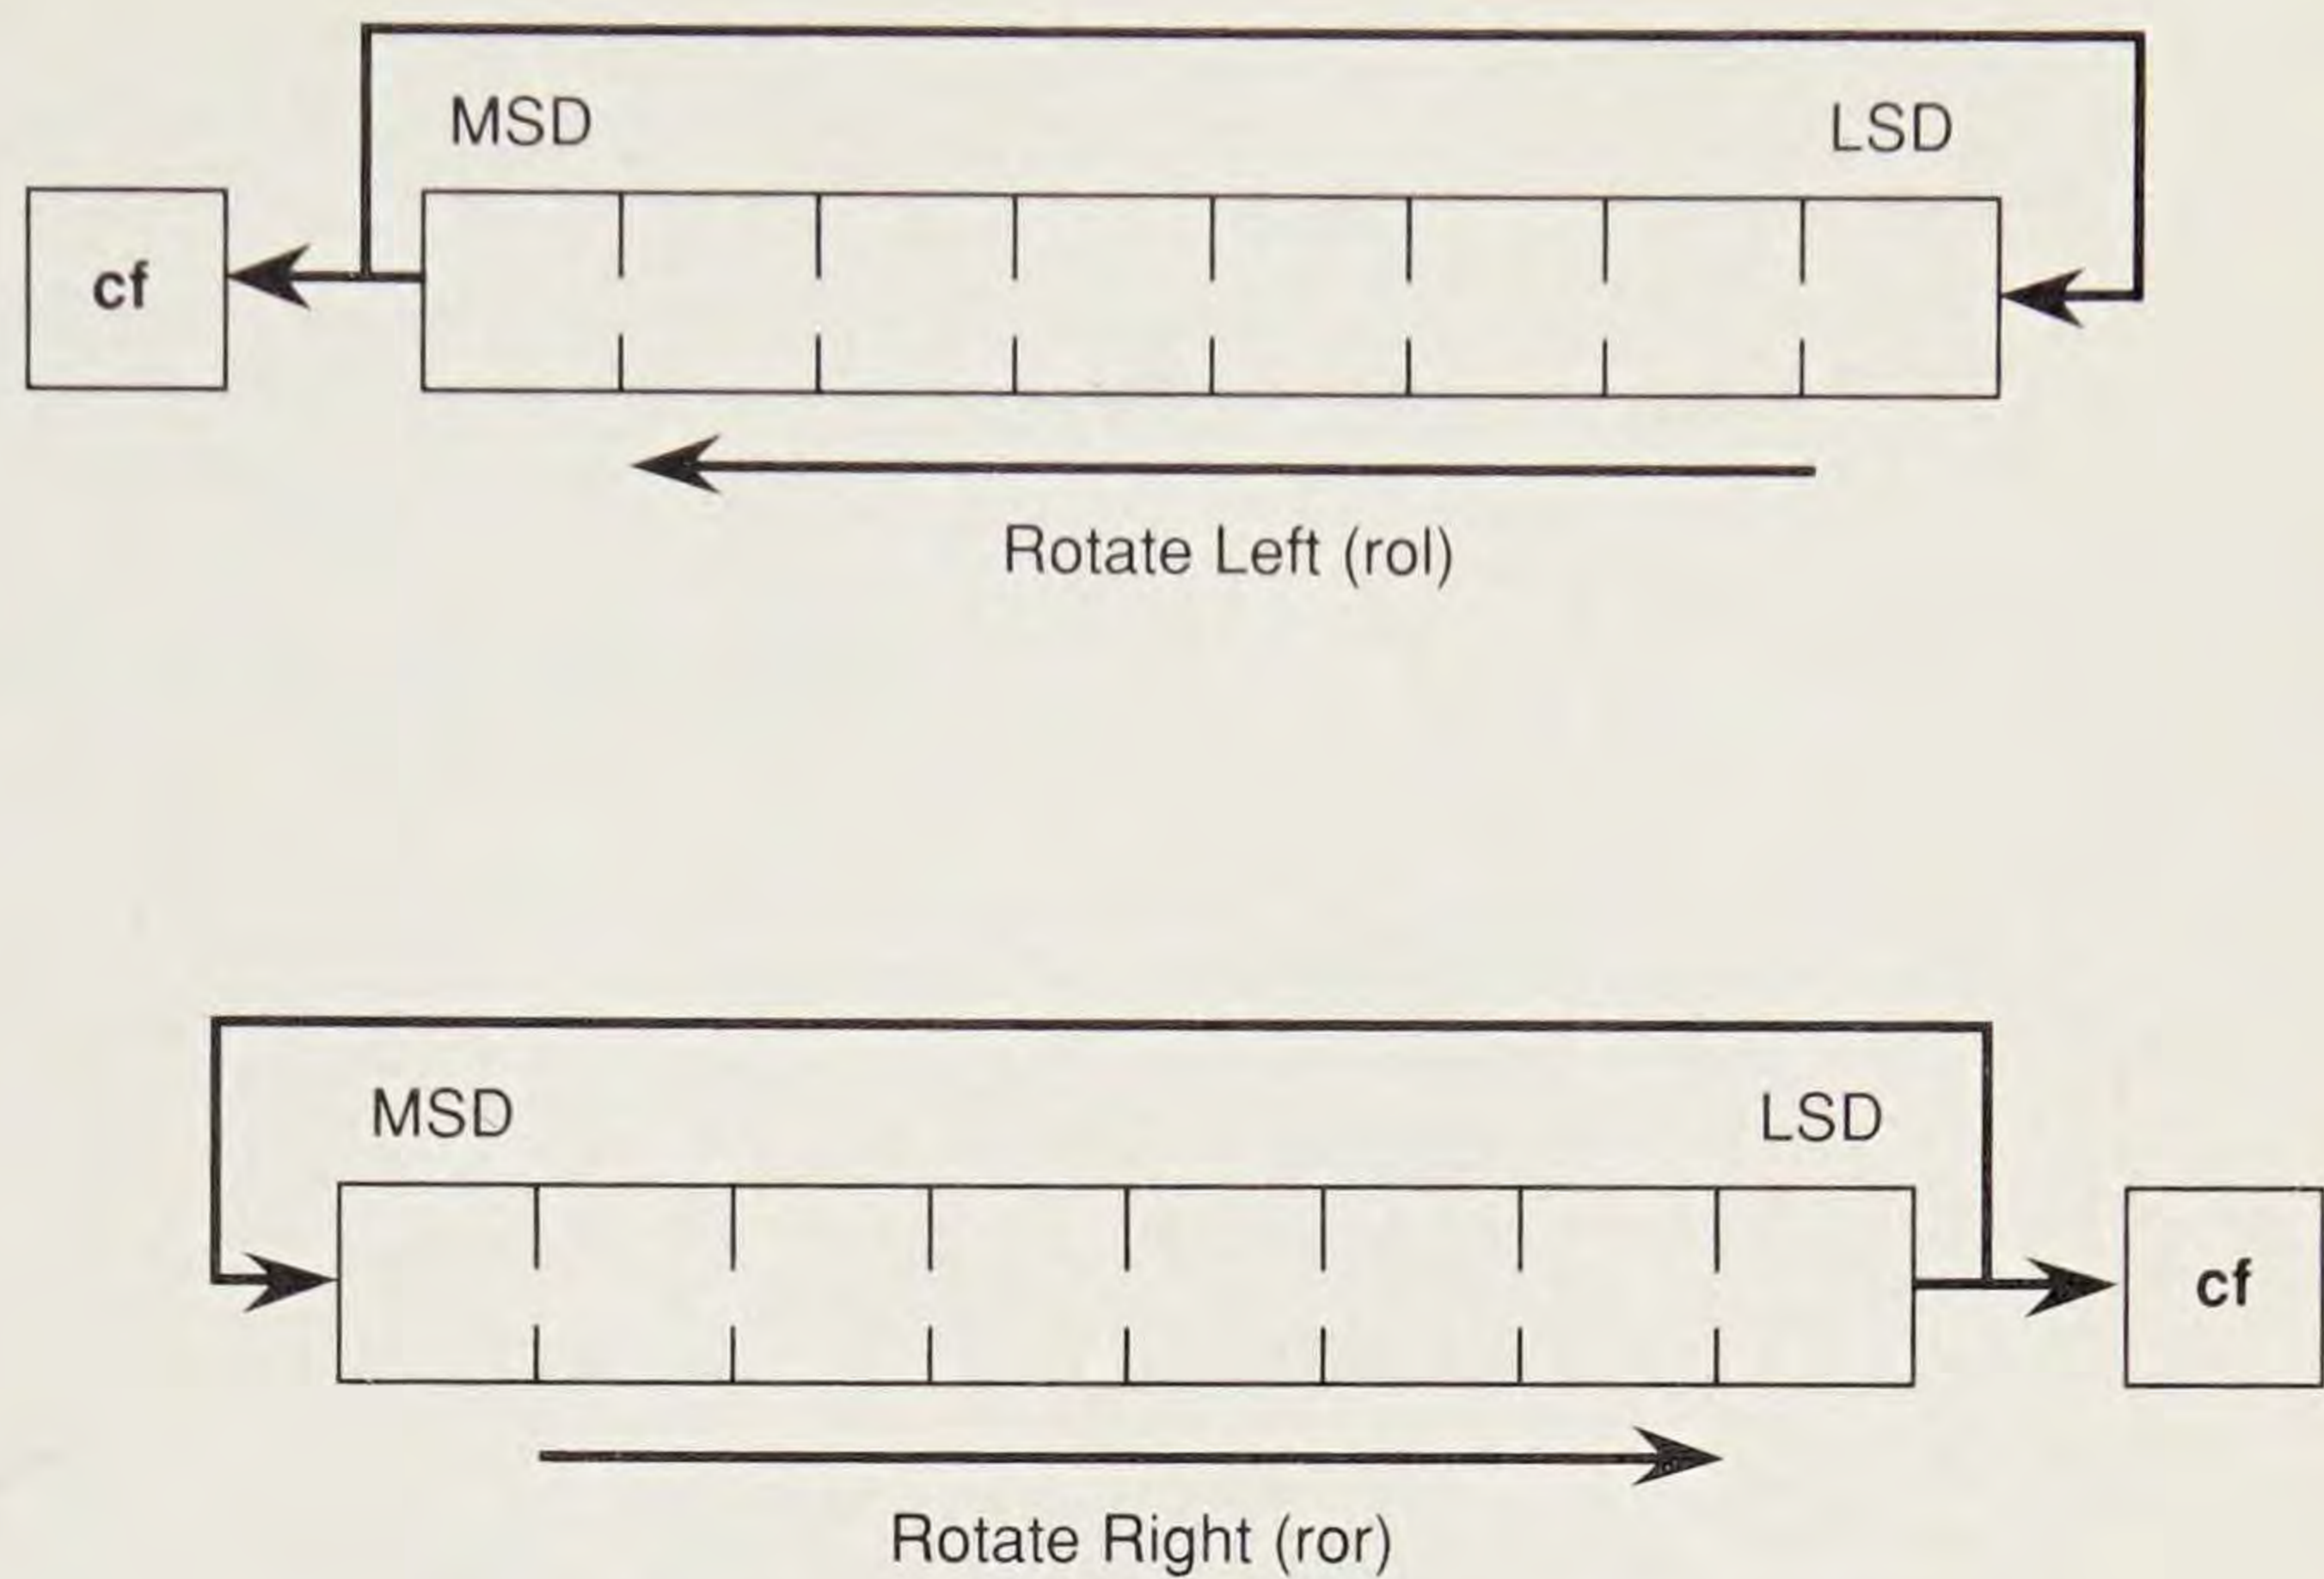

Figure 4-6 The *rol* and *ror* rotate instructions.
3. Figure 4-6 shows how the rotation instructions `rol` and `ror` differ from plain shifts. They do not shift a 0 bit in from the right or left; instead, the MSD and LSD values rotate around to the opposite end. The other bits shift in the indicated direction. With `rol`, the original MSD rotates around to become the new LSD. With `ror`, the original LSD rotates around to the MSD position. These *same* bits also move into the carry flag, just as they do with `shl` and `shr`. Step through lines 21–22 to experiment with these instructions.